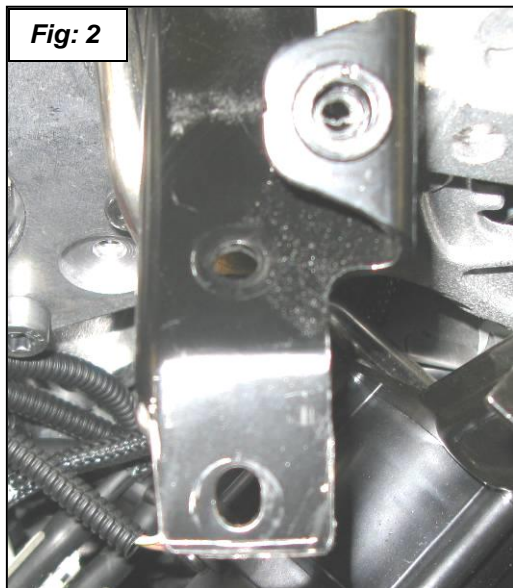
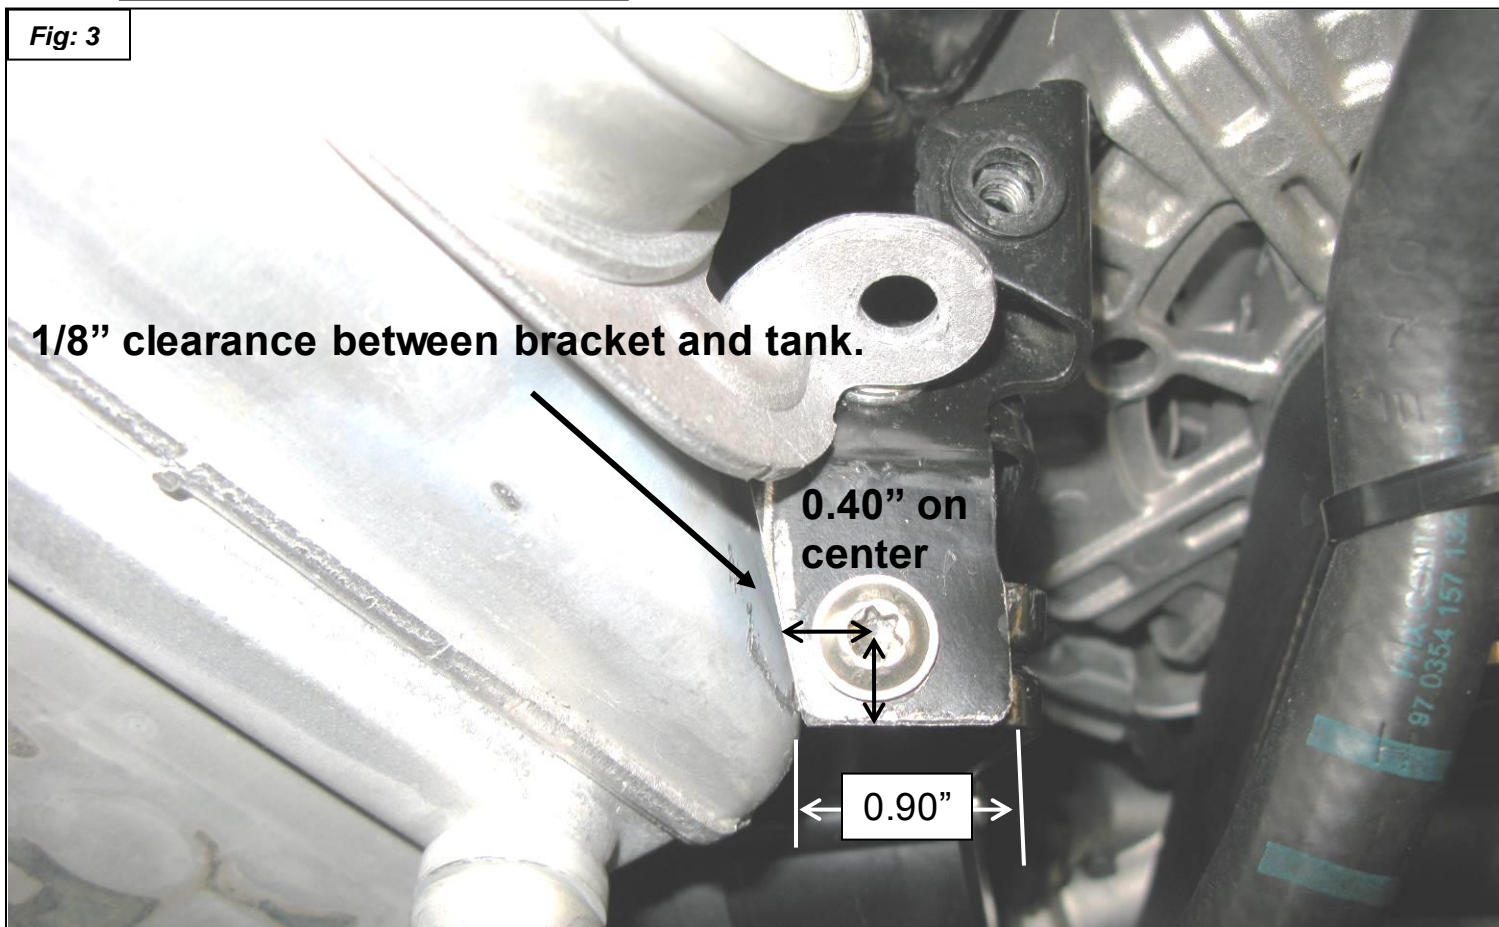

Fig: 2
Fig: 3
- Figure 2 is the cut bracket and figure 3 is the cut bracket with the Dinan intercooler installed, showing where you needed clearance.